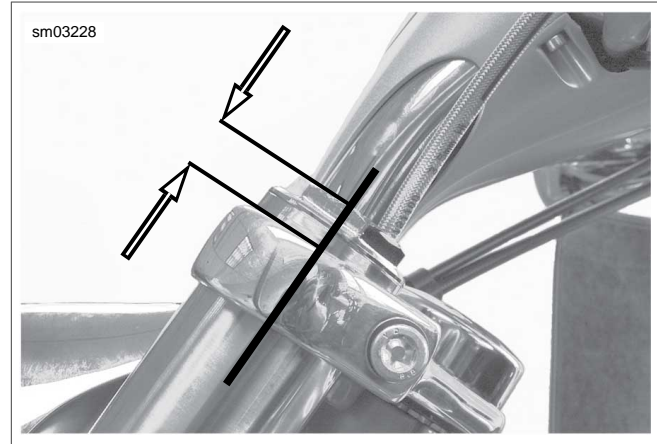

Figure 2-88. Fork Tube Protrusion: Typical
1. See Figure 2-88. Insert fork tube and slider assemblies through lower triple clamp and upper triple clamp. Fork